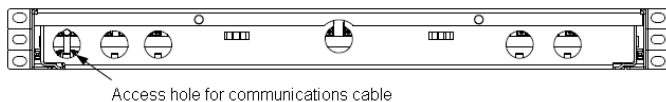

Figure 2 - Rear view of the RFR panel
2. Install communication bus cable through the appropriate hole at the rear of the panel and attach to the RJ-45 port shown in Figures 2 and 3.